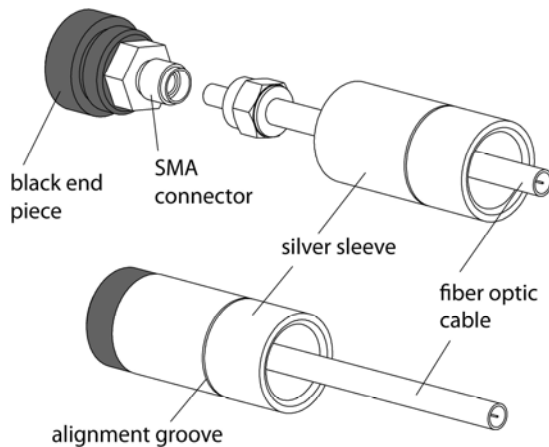

Figure 4 - Attaching the fiber optic to the SMA connector
5. Now, unscrew the silver sleeve from the black end piece revealing the SMA connector (Figure 4).